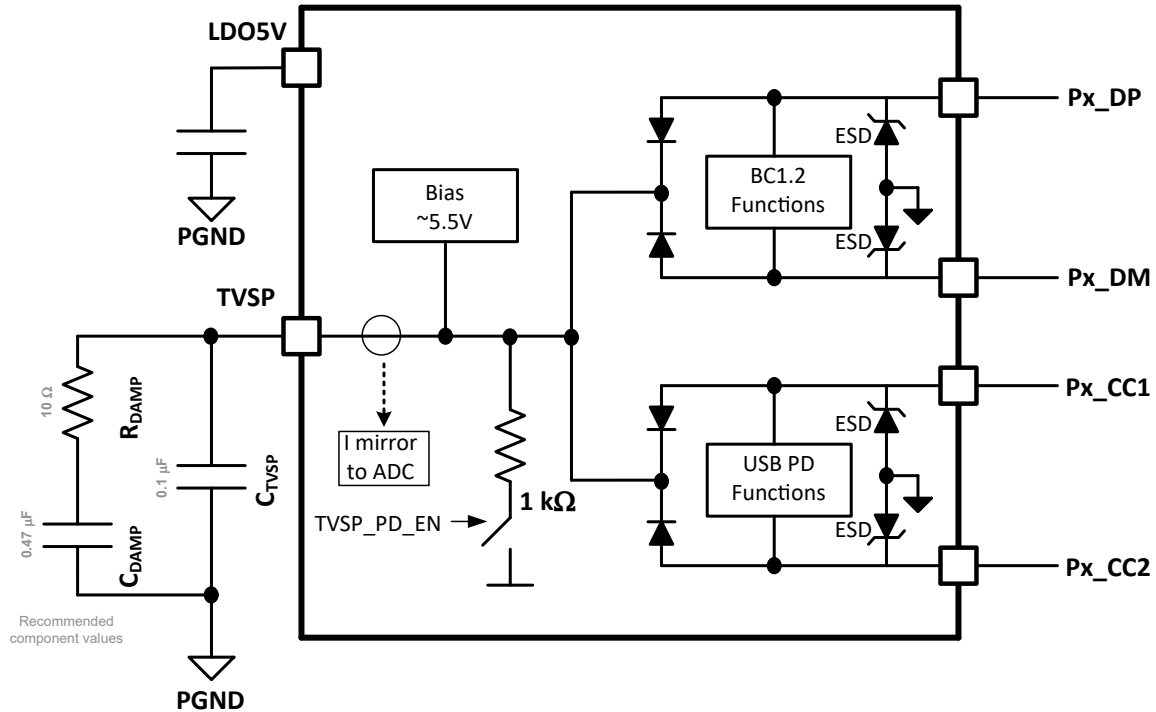

図 9-4. Basic TVSP Pin Connection
- **R_{TVSP} :** At power on, the resistance between the TVSP pin and PGND determines the boot method, USB PD port I²C addresses and I²C logic thresholds. Refer to 表 9-4 and 表 9-5. The most common configuration is shown in 図 9-4 with R_{TVSP} open, corresponding to TVSP Index 0. During device initialization and boot, typically within 4 seconds after power on, V_{IN} must be above 7.6 V to ensure proper bias of the TVSP pin to 5.5 V. Once boot is complete the device can operate over the full V_{IN} range.